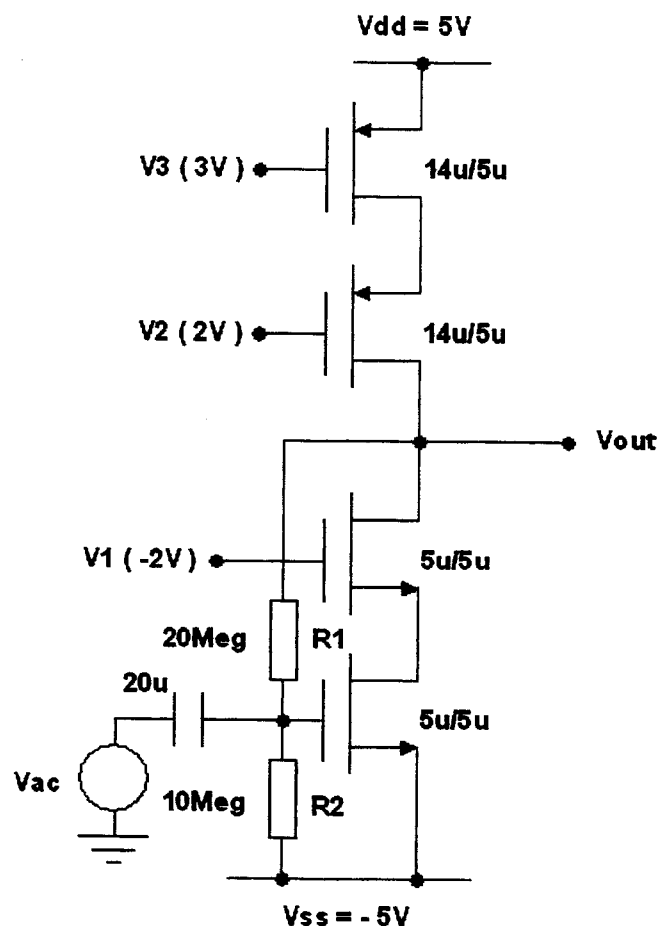

Figure 1.1
1. Figure 1.1 shows a single-stage double cascode CMOS amplifier.